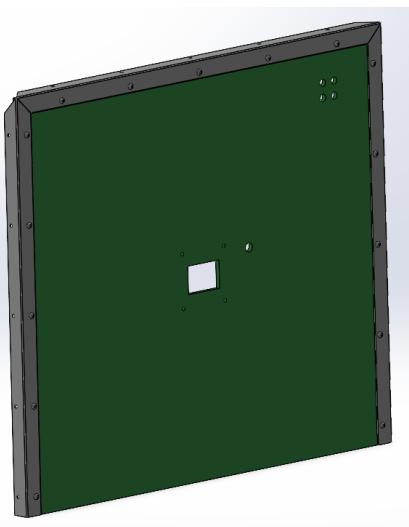

Fig. 11. Aluminum side trim and top wide trim installed on the back acrylic.
5. Screw the top wide and side aluminum trims onto the back acrylic, see Fig. 11.